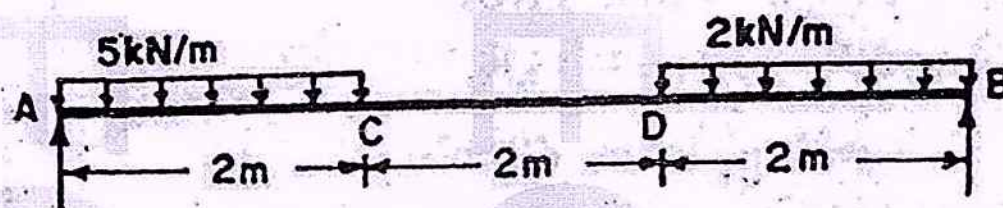

Fig.4
- 15 Draw the shear force and bending moment diagram of the SS beam ABCD shown in Figure 4. 14